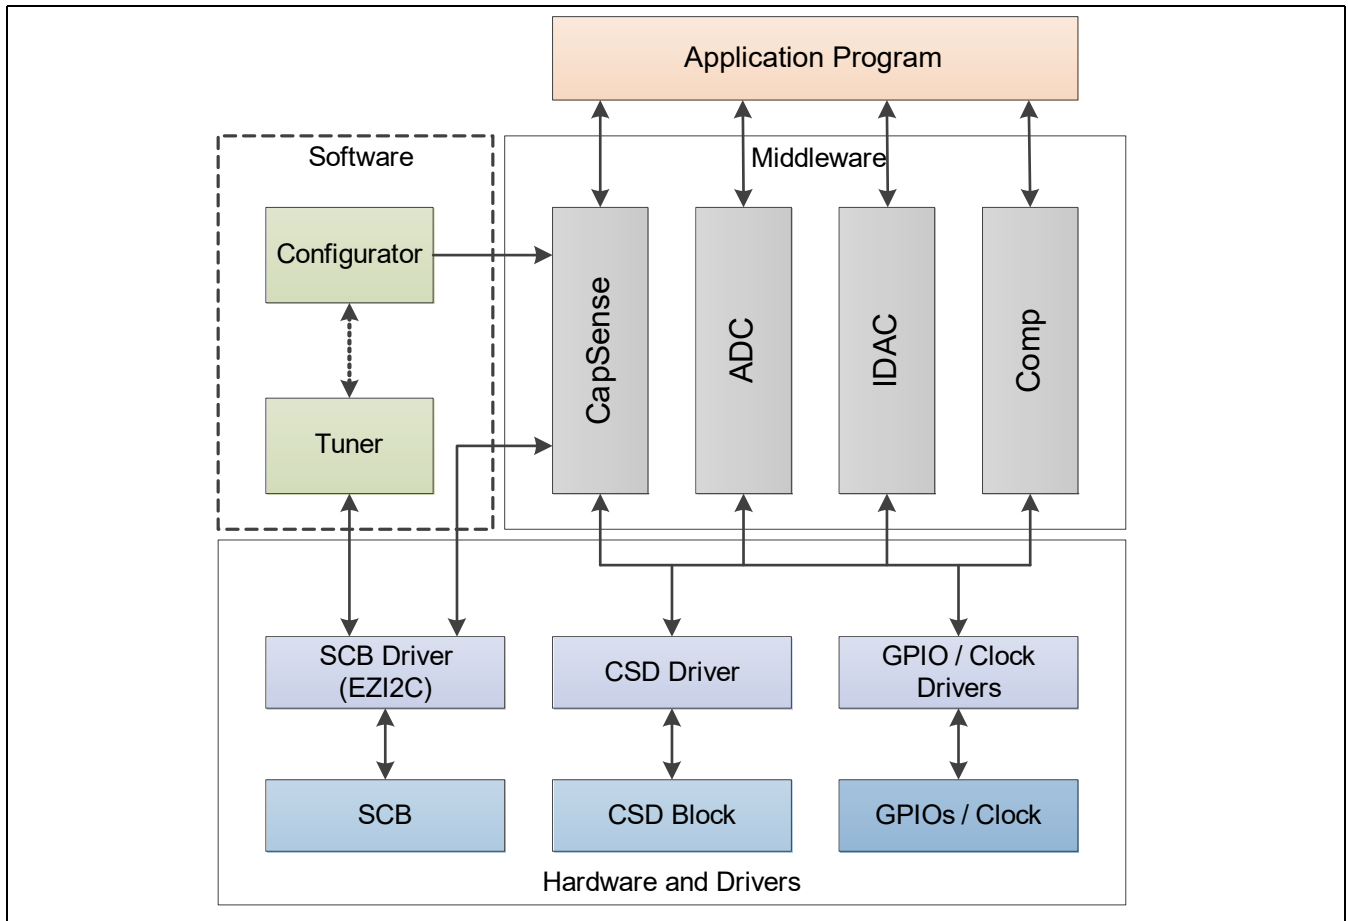

Figure 10 CAPSENSE™ software/firmware subsystem
**Figure 10** shows the high-level software overview. Infineon provides middleware libraries for **CAPSENSE™**, **ADC**, and **IDAC** on GitHub to enable quick integration. The Board Support Package for any kit with CAPSENSE™ capabilities automatically includes the CAPSENSE™ library in any application that uses the BSP.